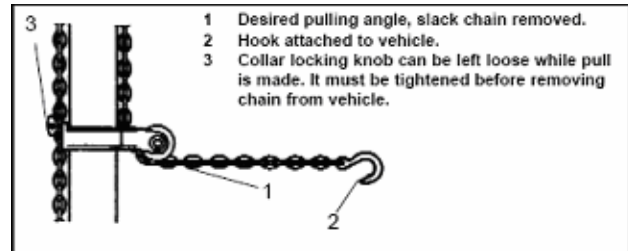

Figure 19
3. Let tower chain hang free momentarily to remove twist. Then without twisting chain, attach hook to vehicle. Pull on tail end of chain to remove slack (see figure 19). Loosen collar locking knob and lower collar.